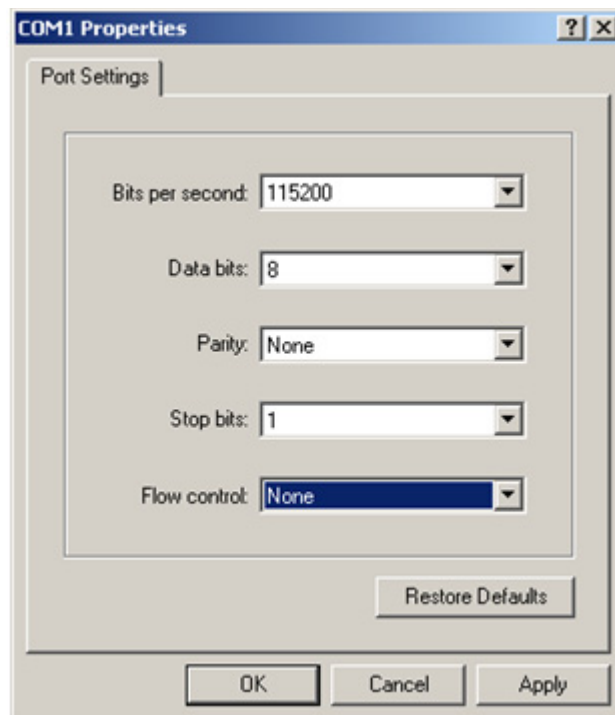

Figure A-11. Communication settings
4. Figure A-11 explains the configuration of COM1 properties—the communication baud rate to 115200, data length to 8, no parity, one stop bit, and hardware flow control. Then click OK to complete the HyperTerminal configuration.